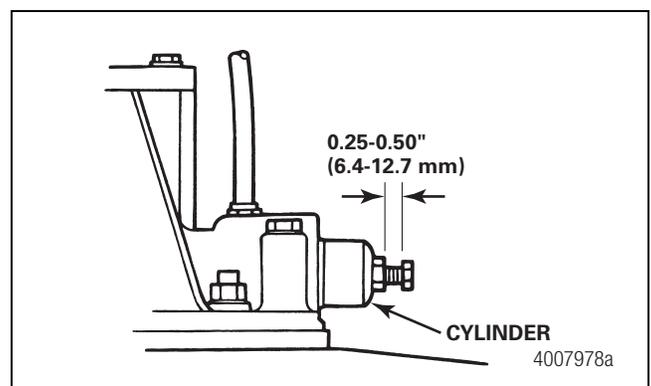

Figure 11.3
- D. Turn the cap screw to the right until the head is approximately 0.25- to 0.50-inch (6.4 to 12.7 mm) from the cylinder. The cap screw is now in the service position and the DCDL shift collar is locked (engaged). Figure 11.3. When turning the cap screw you will feel a small amount of resistance. This is normal. If you feel a high resistance before achieving the 0.25- to 0.50-inch distance between the cap screw head and cylinder, STOP TURNING THE CAPSCREW and continue with Steps E and F.